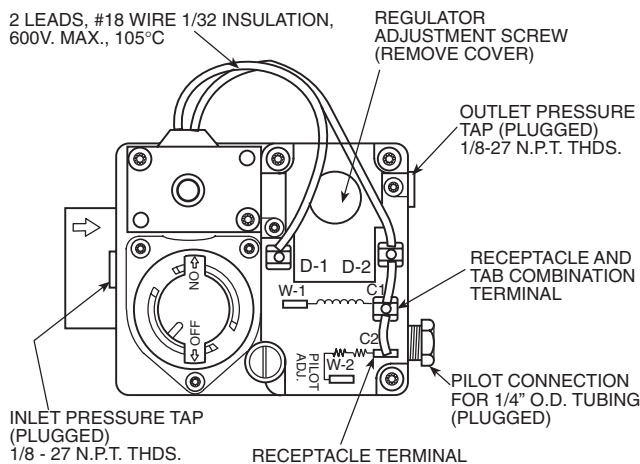

Fig. 75 — Gas Valve (Part Number EF33CB271)
6. Remove screw cap covering regulator adjustment screw (See Fig. 75).